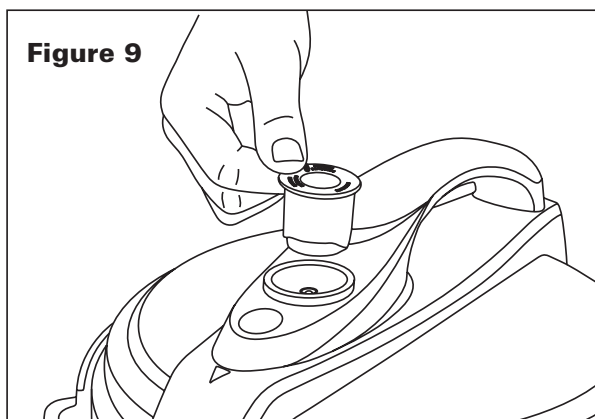

Figure 9
7. Remove the Pressure Release Valve by pulling it up and off and rinse with warm water and dry, replace it into position (see fig. 9).